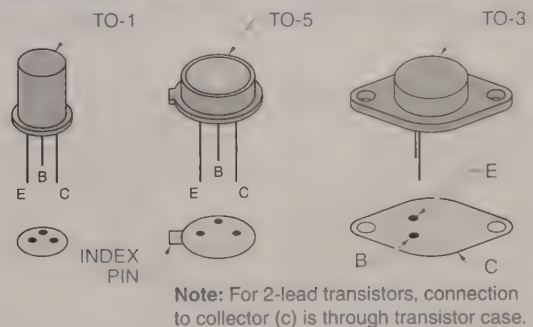

Figure 22-5. A transistor outline (TO) number is a number determined by the manufacturer that represents the shape and configuration of a transistor.
A *transistor outline (TO) number* is a number determined by the manufacturer that represents the shape and configuration of a transistor. See **Figure 22-5**. Transistor outline numbers are determined by individual manufacturers. *Note:* The bottom view of transistor TO-3 shows only two leads (terminals). Typically, transistors use the metal case as the collector-pin lead.